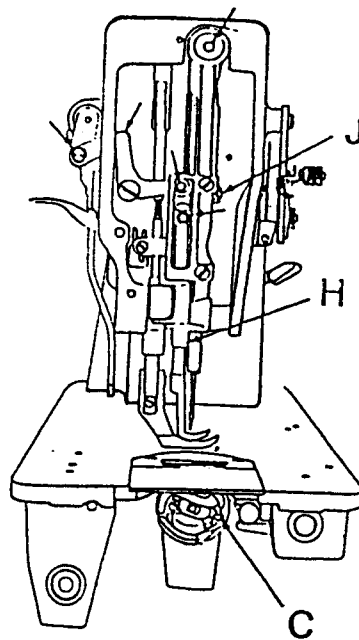
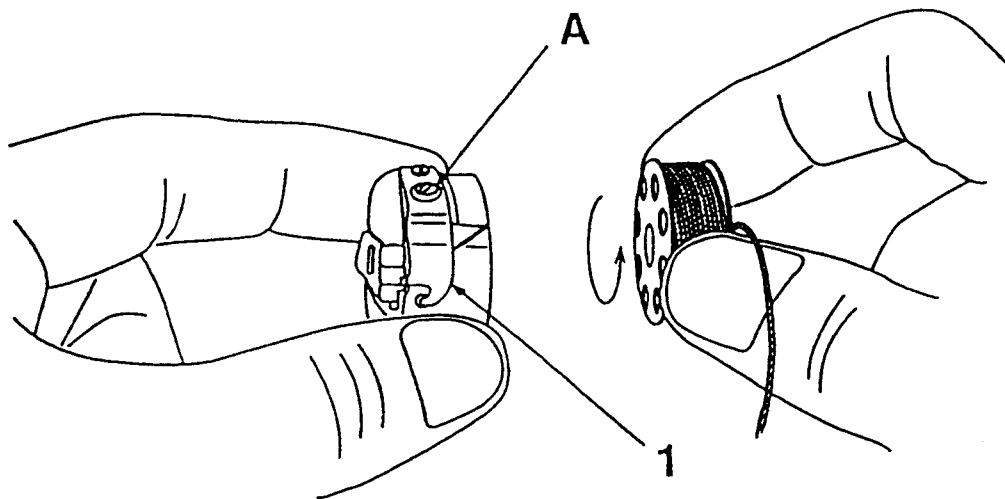

Fig.4
Fig.8
2. Pass left hand under table into opening on the drip pan. With left thumb and index finger, open the hinged latch (C, Fig.4). And pull bobbin case and bobbin from rotary hook. While the latch is held open, the bobbin will be retained in the bobbin case. Release of the latch and turning of the open side of the bobbin case downward will cause the bobbin to drop out.
3. Hold the bobbin between the thumb and forefinger of your right hand and pull out a length of about 5cm of thread. Holding the bobbin case in your left hand turn the open side up and place the threaded bobbin into it. (Fig.8)
4. With the right hand guide the thread into the slot in the edge of the bobbin case. Then pull the thread to the left, under tension spring (1, Fig.8) and into the delivery eye. In order to keep the bobbin from dropping out of the case when it is turned with the open side down, always keep the hinged latch (C, Fig.4) at the front of the bobbin case open.
5. Take the threaded bobbin case by the latch (C, Fig.4) and place it on the center stud of the bobbin case holder. Release latch and press bobbin case on to center stud until the latch catches the undercut thereon with a click that can be heard. Permit about 5cm of bobbin thread to hang down freely. Be sure to push the slide plate to the right before starting to sew.
2. Tension of the Lower (Bobbin) thread: (Fig.8)
The lower (bobbin) thread tension is controlled by the larger screw (A, Fig.8) near the end of the spring at the outside of the bobbin case. Turning this screw to the right (clockwise) will increase the thread tension, while turning it to the left (counter-clockwise) will decrease it.
2. Holding the bottom of the needle bar rock frame (H; Fig.4), move it as may be required to get the correct position to the feeder.